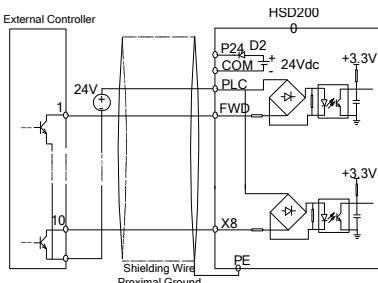

Figure 4-18: Internal +24V Power Supply Servo Drive Drain Connection
- The servo drive internal + 24V power supply shall be used. The external controller connection mode is NPN common emitter output. It is shown in figure 4-18: (wiring between PLC and P24 terminal shall be removed).